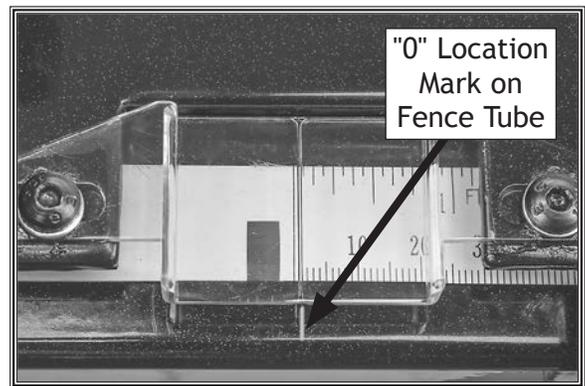

Figure 31. "0" location marked on fence tube.
22. Lightly mark "0" location on fence tube (under indicator line on pointer window) with a pencil, as shown in **Figure 31**, then remove fence.